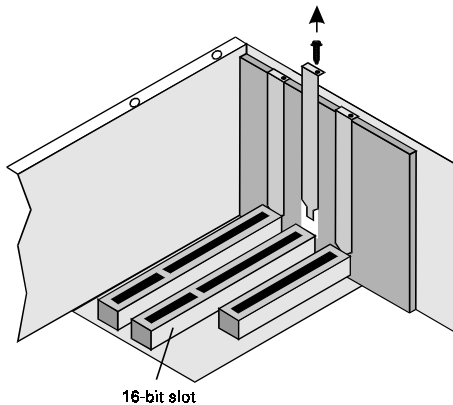

Figure 2-14: Removing the metal plate from the slot.
2. Remove the metal plate from the slot you have chosen and put the screw aside (see Figure 2-14).